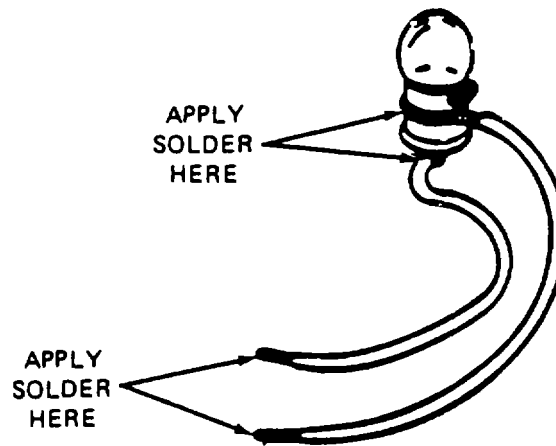

Figure B-1. Voltage Indicator Made from Light Bulb.
a. **Making a Voltage Indicator.** A voltage indicator can be made from a light bulb and two pieces of wire (figure B-1). The pieces of wire can be connected to the case and center terminal of the bulb by means of solder, twisting, or simply holding the wire ends against the bulb (see illustration). The voltage rating of the bulb should be close to the value of the expected voltage being tested. For voltages in the 18 to 30V dc range, any light bulb on the driver's master panel, driver's instrument panel, gunner's panel, commander's panel, or gunner's primary sight can be used. For voltages of 5V dc or less a two-battery cell flashlight can be used. The presence of voltage will cause the bulb to glow. Polarity of DC voltage does not have to be observed; even ac voltage can be measured. Twist exposed wire ends together and apply solder, if available, and solder. Touch wires to voltage source when ready to test for voltage.